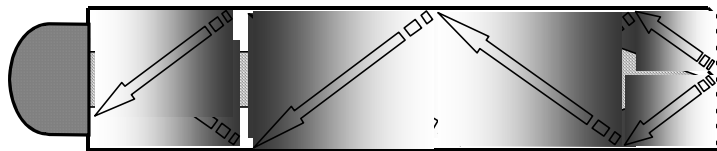

Figure 4 Rough reflective surface
- Rough reflecting bolt ends. As shown in Figure 4, if the reflecting end of the bolt is rough or curved, most of the reflected energy will be dispersed and a weak or distorted echo will be received.